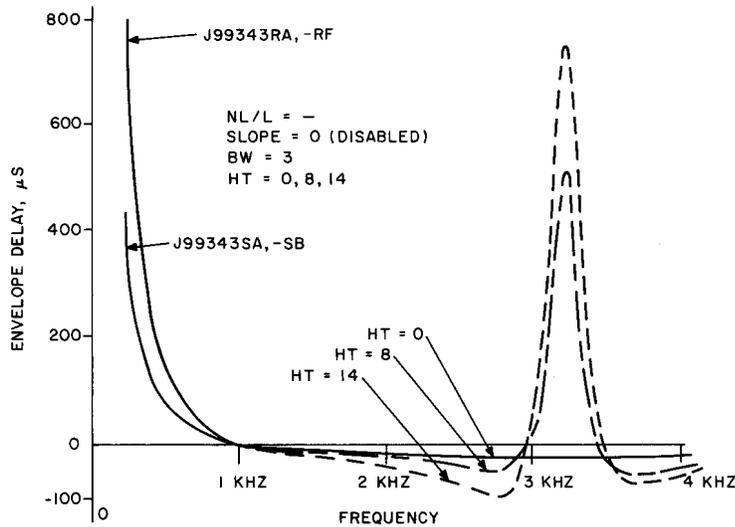

Fig. 20—Relative Envelope Delay Distortion of J99343SA, SB, RA, RF Repeaters—BW = Small Setting, HT Variable
**6.08** The effect of variations of the HT and BW functions on envelope delay distortion is shown in Fig. 20 and 21. The narrowest width bump has the greatest effect as seen in Fig. 20. Note in Fig. 20 that variation in the HT setting has no effect below about 1 kHz.